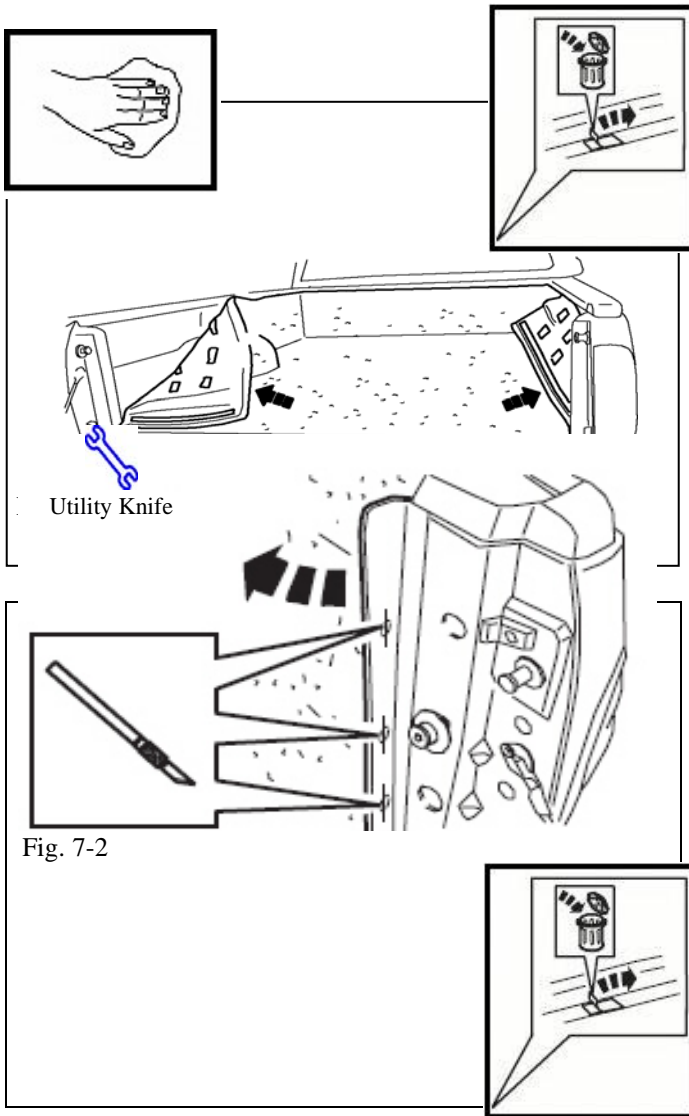

Fig. 7-2
**NOTE:** If using the BedRug in conjunction with a bed extender, cut the slits (located on back of part) of the D-pillar area to allow access to attachment holes. (Fig 7-2)